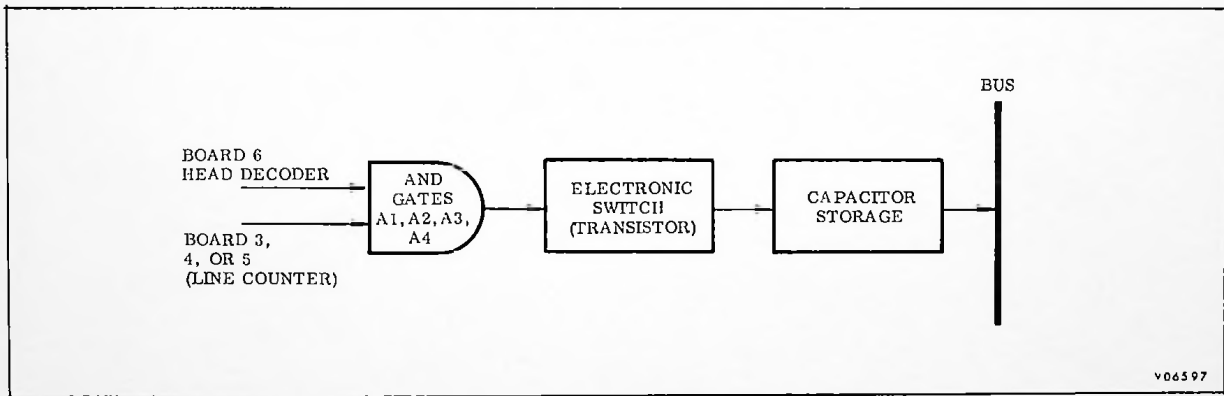

Figure 4.2-7. Memory Block Diagram
All X1 amplifiers of Figure 4.2-7 are unity-voltage-gain isolation amplifiers which provide high current-amplification.
4.2-43 ANALYSIS. Both read and write sequences begin with selection (address) of specific capacitors by the combination of head decoder and line-counter coincidences at the inputs to AND gates A1, A2, A3, and A4 (Figure 4.2-7).